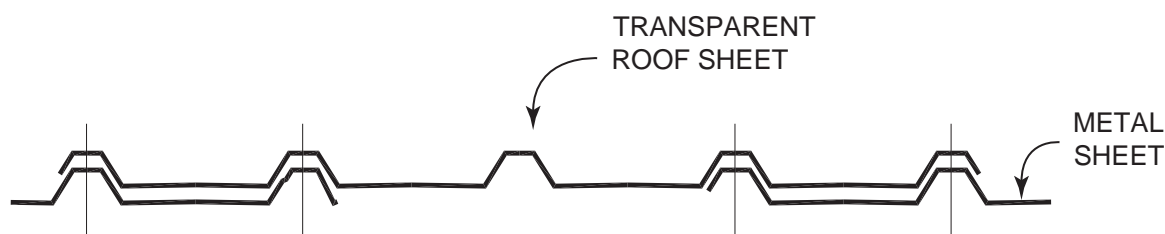

Figure 28
Fit light panel two (2) steel sheets in from projection gutters and keep a minimum of two (2) steel sheets between panels. Fit light panel over top of steel sheets by two (2) crests. (Figure 28)